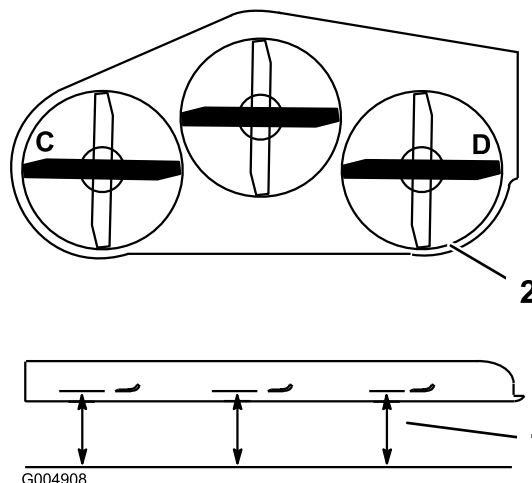
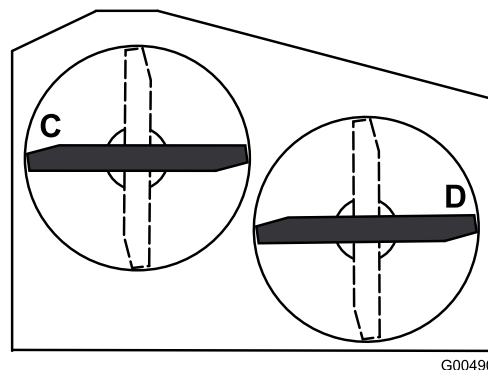

Figure 68
Figure 69
2. Position the blades side-to-side. Measure at **C** and **D** locations from a level surface to the cutting edge of blade tips (Figure 68). For 36 inch mower decks use Figure 69.